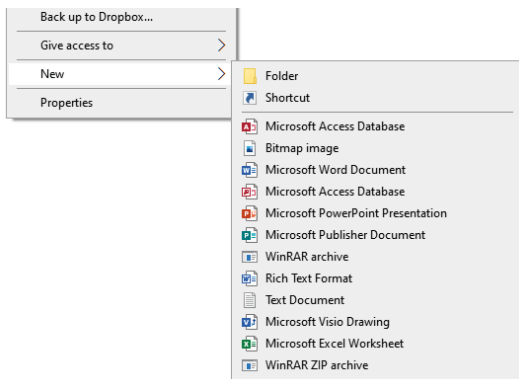

Fig. 55
1. Create a new text file using a text editor such as Notepad (Windows) or TextEdit (Mac) (Fig. 55).